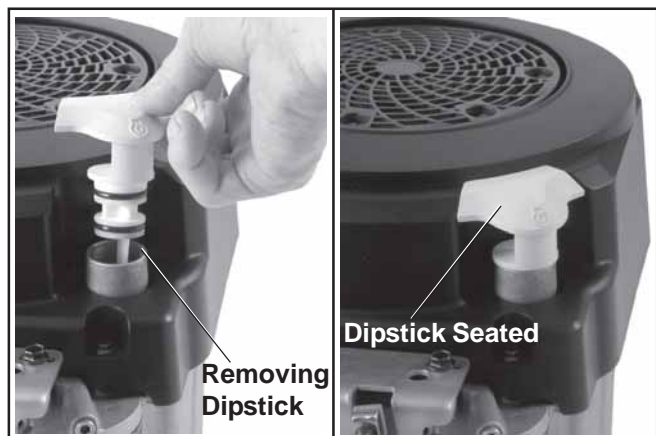

Figure 6. Checking Oil Level.
3. Pull and remove the oil fill cap/dipstick; wipe oil off. Reinsert the dipstick and push firmly into place. See Figure 6.